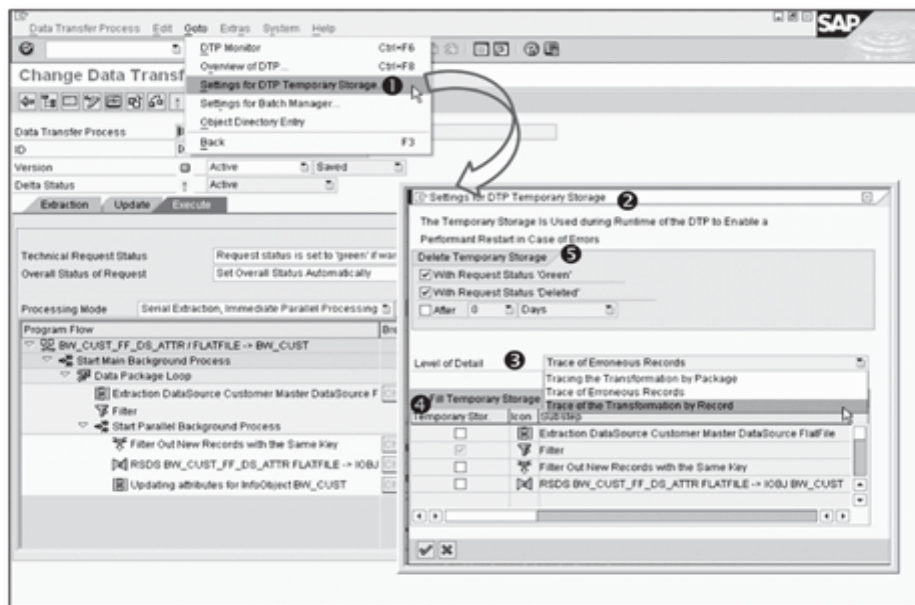

Figure 7.78 Configuring Temporary Storage
You can configure temporary storage from the DTP configuration screen, as shown in Figure 7.78. Use the menu path GOTO • SETTINGS FOR DTP TEMPORARY STORAGE (1). This action results in the Settings for DTP Temporary Storage screen (2), which allows you to trace records to various levels of detail (3). You can define the step in the sequence of processing substeps to fill the temporary storage (4). Standard